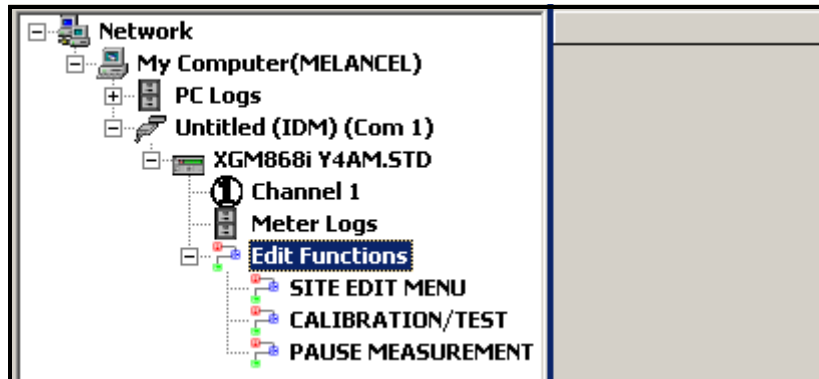

Figure C-9: Menus in the *Edit Functions* Option
2. Expand the *Edit Functions* option. The window now appears similar to that shown in Figure C-9 on page C-9.